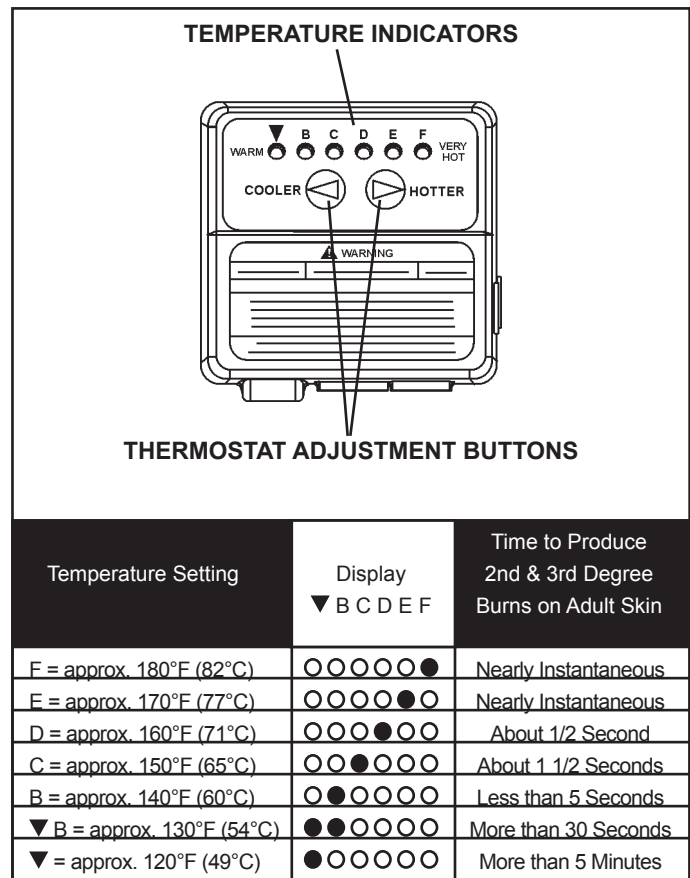

FIGURE 10
Figure 10 shows the approximate water temperatures produced at various thermostat settings. Short repeated heating cycles caused by small hot water uses can cause temperatures at the point of use to exceed the thermostat setting by up to 20°F (11°C). If you experience this type of use you should consider using lower temperature settings to reduce scald hazards.
1. "Wake Up" the temperature indicators by holding down both the "COOLER" and "HOTTER" temperature adjustment buttons at the same time for one second (see Figure 10). One or two of the temperature indicators will light up. These indicators will only remain on for 30 seconds if no further buttons are pressed. After 30 seconds the control will go back to "Sleep" mode.